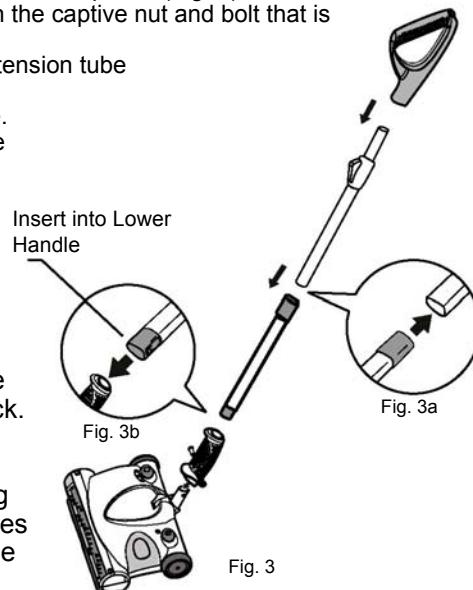

Fig. 3
3. Attach the telescoping tube to the extension tube by pushing the plastic insert into the bottom part of the telescopic pole. (Fig. 3a) Push in until the "tab" on the plastic insert snaps into the open slot on the telescopic tube. Push the telescoping tube into the upper handle. (Fig. 3) Insert the extension tube into the lower handle firmly in place. (Fig. 3b)